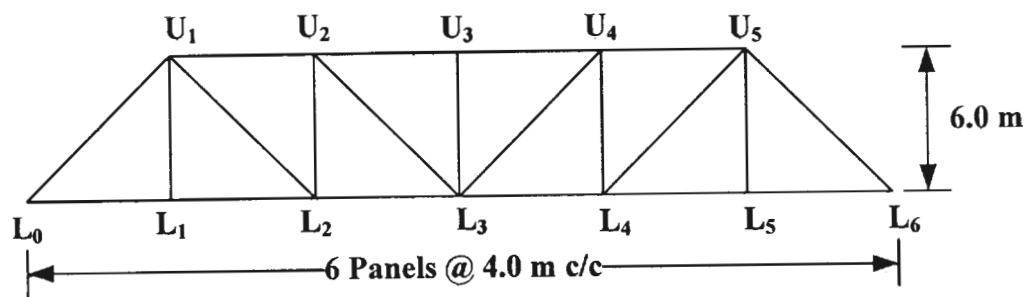

Fig. 1
**Q7)** Design the members  $U_1 - U_2$ ,  $U_2 - U_3$  and  $U_2 - L_2$  for the railway steel truss bridge shown in Fig. 1. Also draw a neat sketch of the connection of members at  $U_2$  [25]